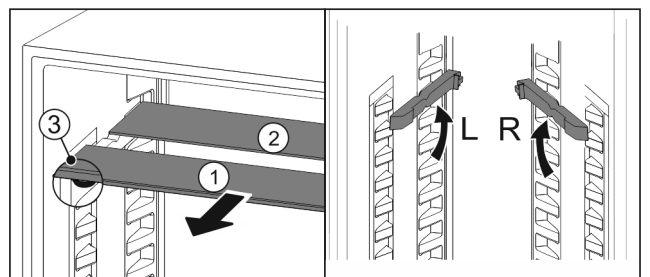

Fig. 123
- ▶ Pull the glass panels out Fig. 123 (1) from the front, one at a time.
- ▷ The glass panel *Fig. 123 (1)* and trim strip are at the front.
- ▷ The stops *Fig. 123 (3)* point down.